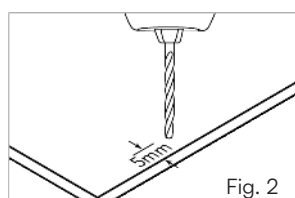

Fig. 2
- Drill 3mm holes 5mm from the edge of the panel (**Fig. 2**)